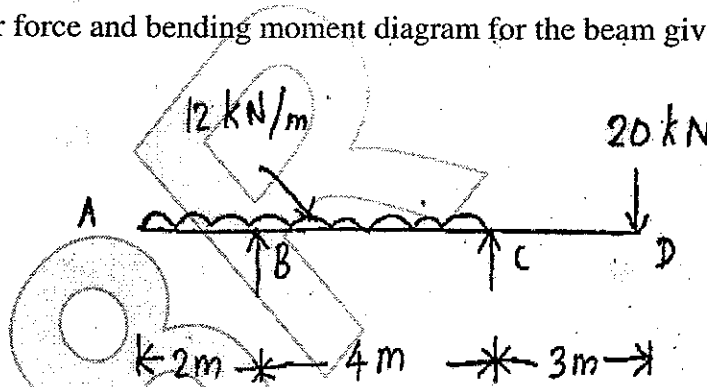

Figure 1
- b) Draw shear force and bending moment diagram for the beam given in Figure 1.